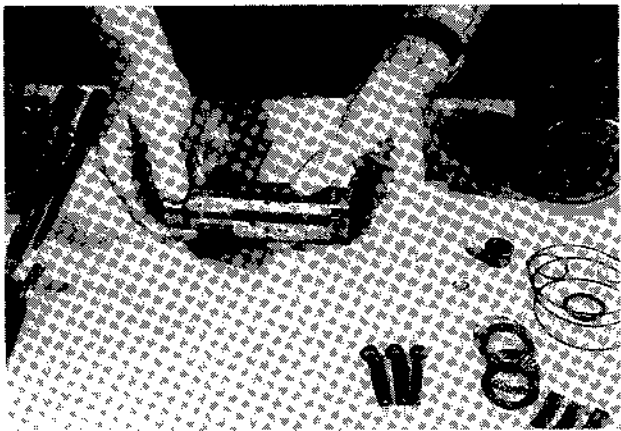

Figure 16
1. Before reassembly of individual parts, make sure that they are lubricated with Case TCH Fluid. Assemble the control valve spool and sleeve, Figure 16. The fit between these two mating parts is very close, as indicated previously, therefore perfect alignment is required during reassembly. If the spool is chilled in a refrigerator or deep freeze prior to reassembly, it will ease the fitting of these two parts. As the control valve spool and sleeve is assembled together, it will be necessary to make sure that the centering spring slots are aligned.